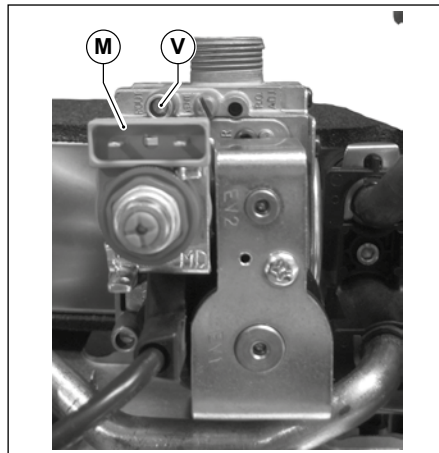

Fig. 48 Pressure testing point
- Connect a pressure gauge to pressure testing point **V** (see Fig. 48 Pressure testing point).